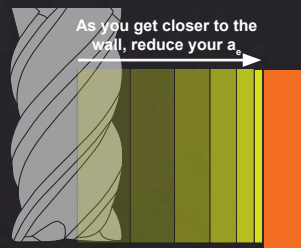
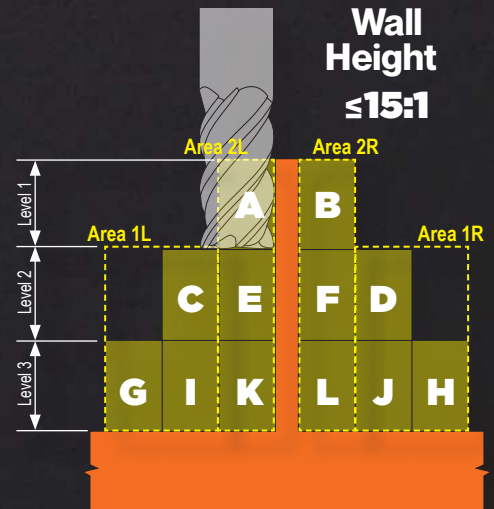
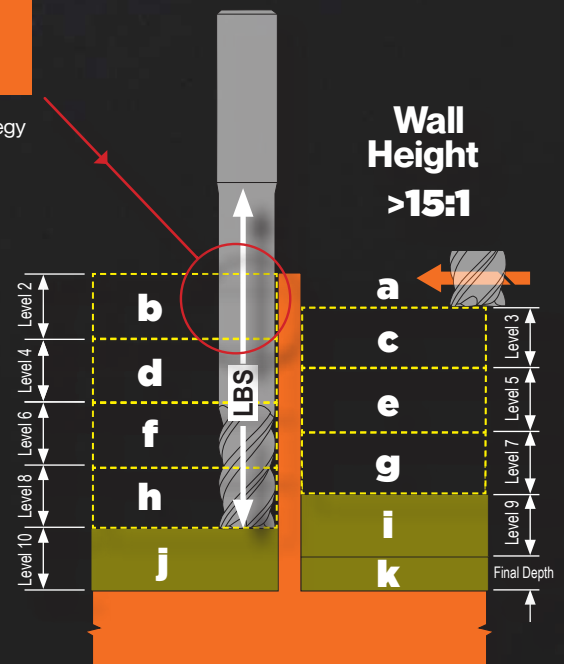

Fig. 5 - Radial DOC ( $a_e$ ) Strategy
Fig. 4 - Material Removal Strategy  $\leq 15:1$
Fig. 6 - Material Removal Strategy  $>15:1$
Please examine the situational analysis provided, as the illustrations (Figures 4 and 6) represent common instances of tall, slender wall situations. We have simplified the analysis to two scenarios: a depth-to-diameter ratio  $\leq 15:1$  or  $>15:1$ . Our objective is to maintain the bracing as we go from one level to another while constructing the wall.
For walls 15:1 or less, we suggest removing the "blocks" alphabetically (Fig. 4), starting with a stub or regular length tool, then using a reduced neck tool to remove the final "blocks/levels" that the first tool couldn't reach. Yes, two tools are required, but keeping the appropriate metal removal rate in mind should be the main emphasis here by regulating vibration, deflection, and raising the metal removal rate (MRR) to enhance roughing efficiency.
For walls  $>15:1$ , we suggest more of an alternating (i.e., overlapping) strategy, keeping some material behind the wall at all times (Fig. 6). Again, starting with a stub or regular length tool, then using a reduced neck tool to remove the final "blocks or levels" that the first tool couldn't reach. As you machine each level jumping over the wall, ensure you always have some material bracing the next cut.
- **Radially** - Especially when there is nothing to work with on the other side of the wall, it is imperative to use the variable radial depth of cut method, as shown in figure 5. The cutting pressure is lowered in proportion to our decreasing radial depth of cut ( $a_e$ ) as we go closer to the wall. This technique should be used for either depth (Fig. 4 or Fig. 6) scenario. Our goal here is to lessen the pressure as we approach the wall, but we should be able to make up some MRR by increasing feed rate due to chip thinning (see page 88 for more information). They'll be a balance here for sure, but at least now you have some additional knowledge.
**TIP** The "LBS" measurement (as shown in Fig. 6), which stands for "length below shank", is the maximum depth that the necked tool may be sent with- out making contact with the wall. This LBS measurement (L2) can be found throughout this catalog. **LBS = Maximum Tool Reach**